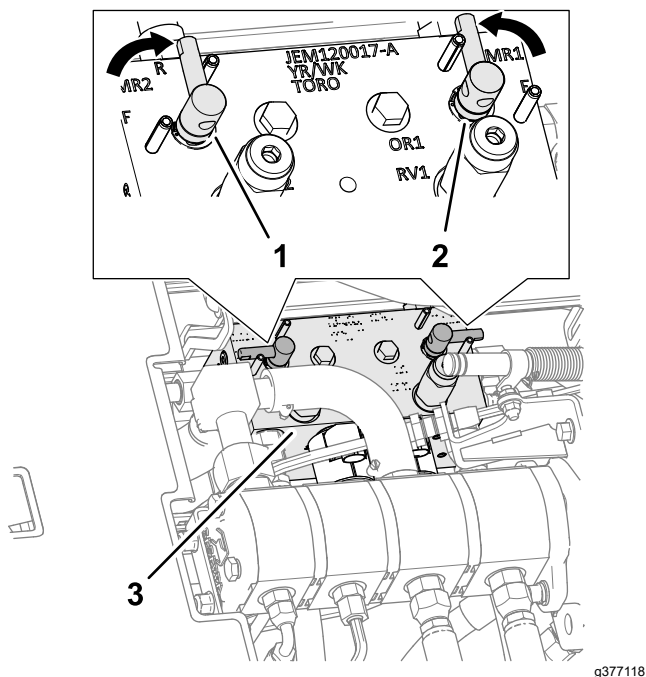

Figure 147
4. Unlock and raise the seat to expose the mower manifold (Figure 147).
5. Move the backlap levers to the R (backlap) position (Figure 147).